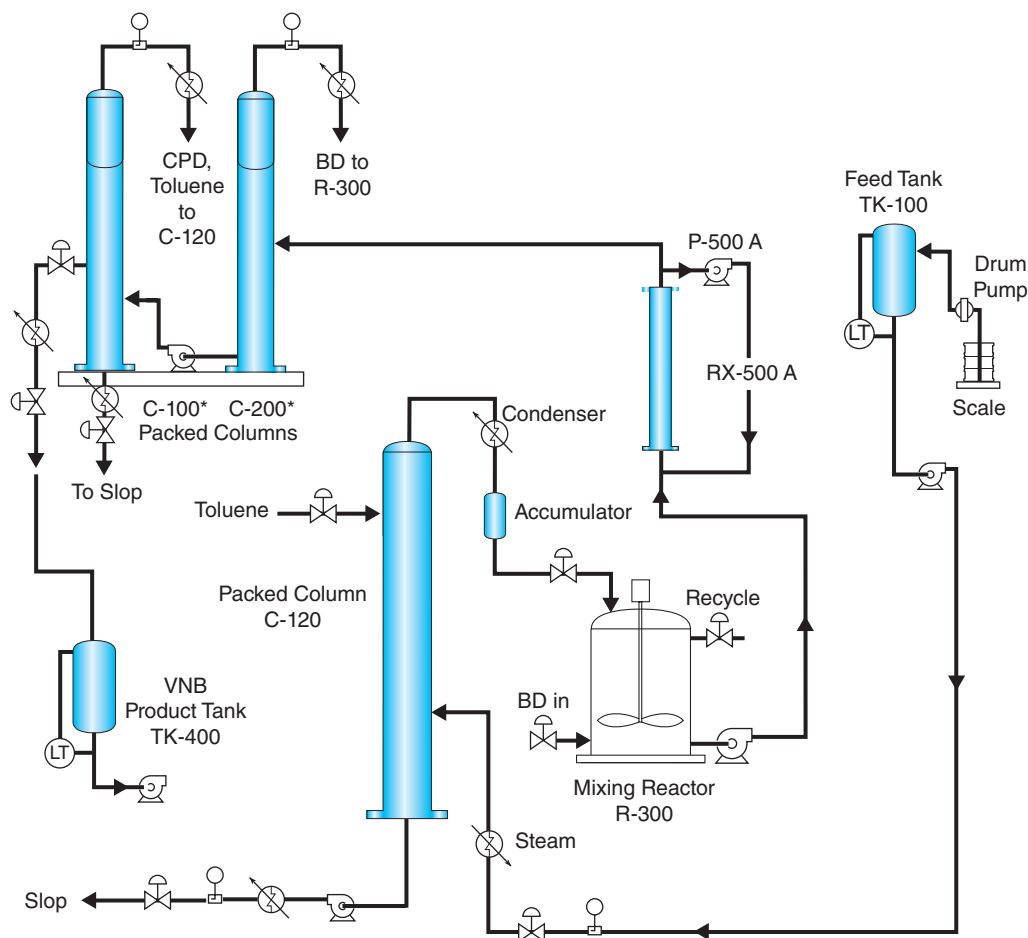

Figure 14.14 *Chemical Synthesis and Tubular Reactors*
The purpose of the tubular reactor in chemical synthesis is to combine cyclopentadiene (CPD) and butadiene (BD) to form (synthesize) vinylnorbornene (VNB) (Figure 14.14). VNB is the primary component added to a sodium catalyst and alumina to make ethylnorbornene (ENB), a special additive used to strengthen common rubber products. The equipment used during the operation is feed tanks, three packed towers, a continuous mixing reactor, a tubular reactor, and product tanks.